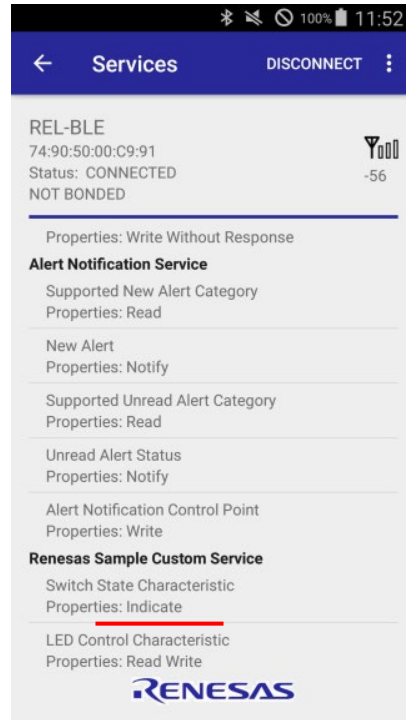

Figure 3
5. (Figure 3) Confirm that "Properties" of "Switch State Characteristic" is "Indicate" on "Service" screen.